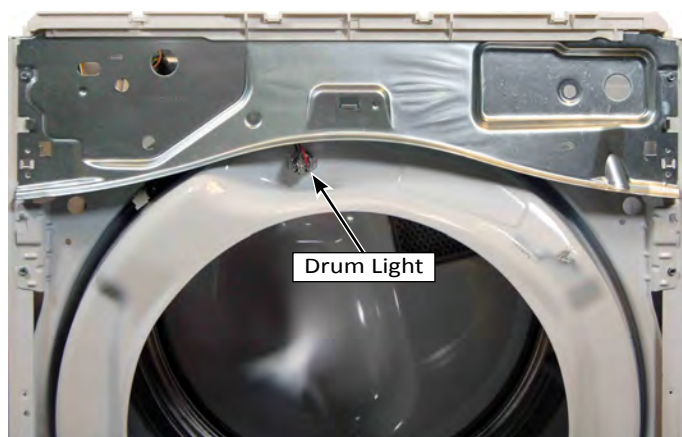

Figure 1
4. Depress the tabs on both sides of the drum light to release from light from bulkhead. Push light and harness through hole (see Figures 1 and 2).